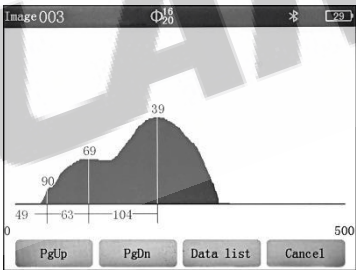

Figure 3.21 Image Scan
- 2. Entering the graphic display interface of the image scan data, it first displays the summary of all current measurements. The interface is shown in Figure 3.21. The user must first select the scan position to be viewed by pressing the direction key, then press [OK] to enter the graphic data viewing interface of the selected scan position.